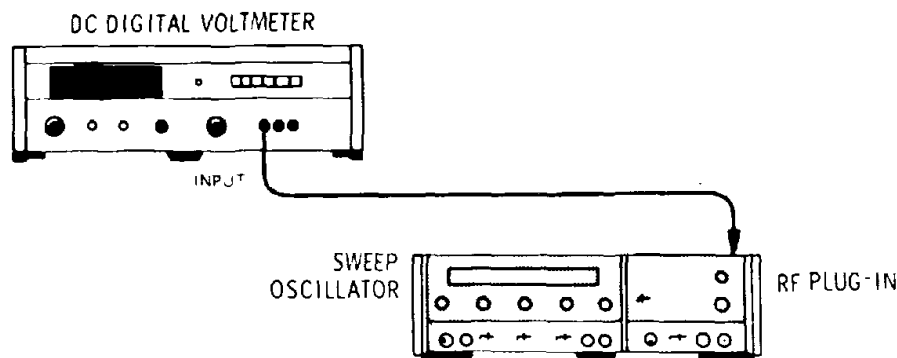

Figure 5-1. Oscillator Bias Adjustment Setup
5-2. This section provides adjustment procedures for the Model 86260A RF Plug-in. These procedures should not be performed as a routing maintenance procedure but should be used (1) after replacement of a part or component, (2) when performance tests show that the specifications of Table 1-1 cannot be met, or (3) when instructed to do so in troubleshooting tree in Section VIII. Before attempting any adjustment, allow 30 minutes warmup time for the instrument. A List of Adjustments by reference designation, schematic name, and function is given in Table 5-1 and the test setup for the adjustment procedure is shown in Figure 5-1.